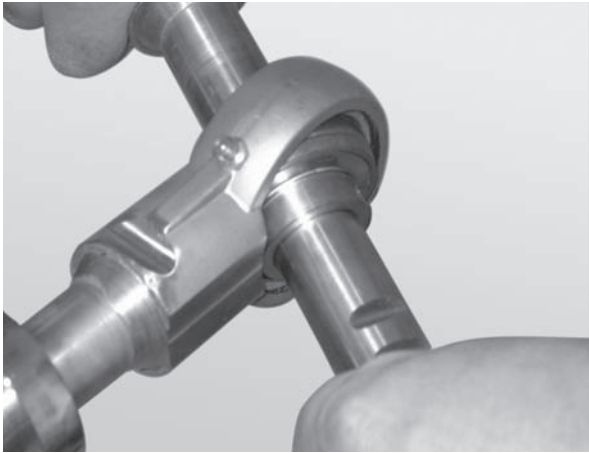

Figure 72
2. Insert the rod end of a second bearing shaft through the bearing (**Figure 72**).